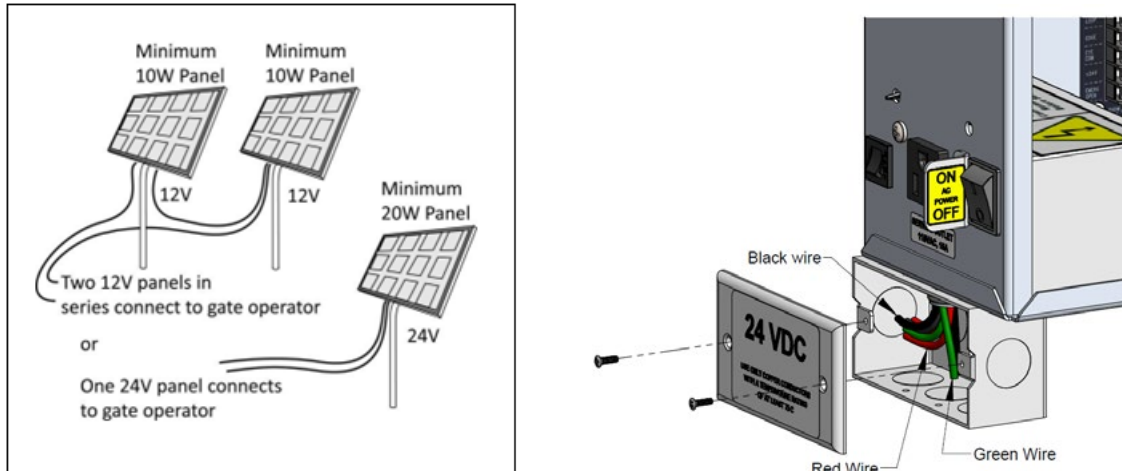

Figure 18. Solar Panels and Wiring Connections
4. Wire nut or crimp bond the solar panel wires to the black and red input wires. See ***"Figure 18. Solar Panels and Wiring Connections"*** on page 75.